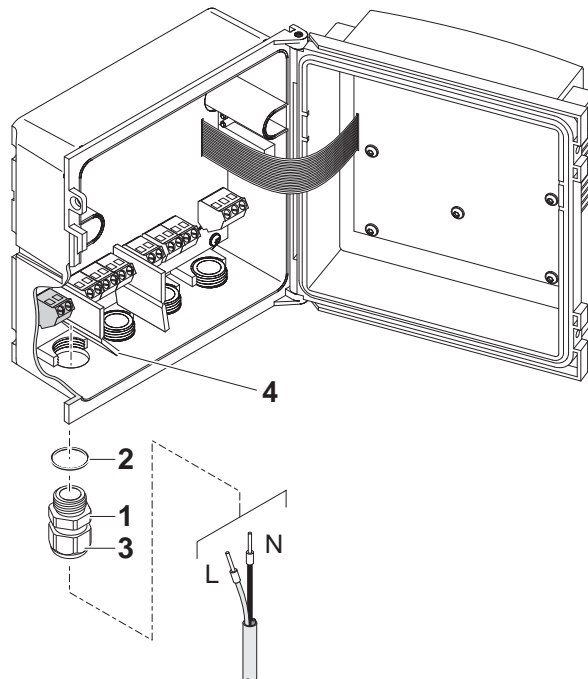

Fig. 3-26 Inserting the supply line.
| 6 | Screw a cable gland (pos. 1 in Fig. 3-26) with sealing ring (pos. 2) into the enclosure below the power supply connection.     |
| 10 | Tighten the coupling ring (pos. 3 in Fig. 3-26).  |